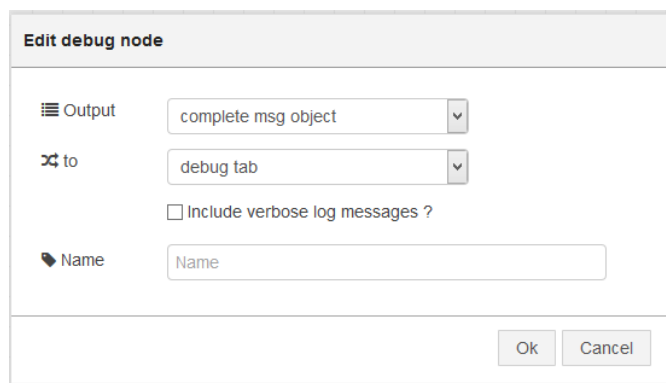

Figure 12: complete msg object debug node configuration.
1. Drag and drop two debug nodes and configure one to output a "complete msg object" (See Figure 12 - do not change the other debug node):